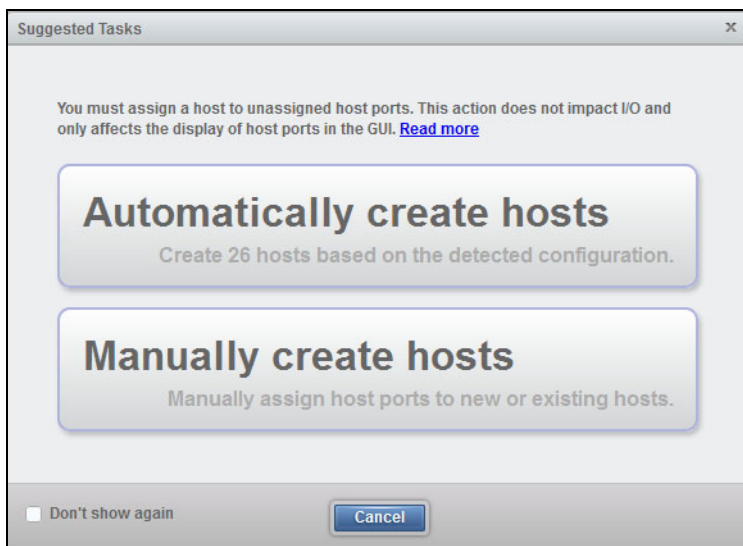

Figure 11-68 Hosts Suggested Tasks
3. The host ports are automatically updated. If there are any detected unassigned host ports, a suggested task window opens with two options as shown in Figure 11-68.